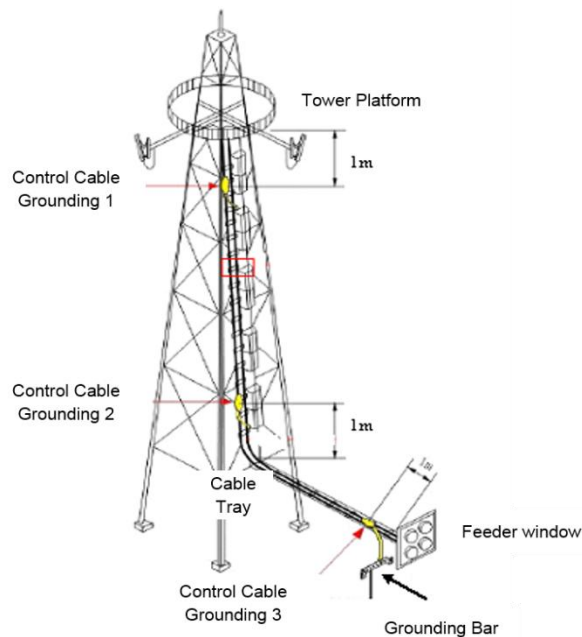

Figure 15
b) Control cables metal sheath should be clamp to grounding kit within 1m of antenna, 1m within the cable tray at the bottom of the tower, and 1m before entering base station shelter. Make sure grounding cable is installed properly, feeder window of the shelter room should be close to the ground and properly connect to the grounding bar that leads to the ground. (See Figure 15)